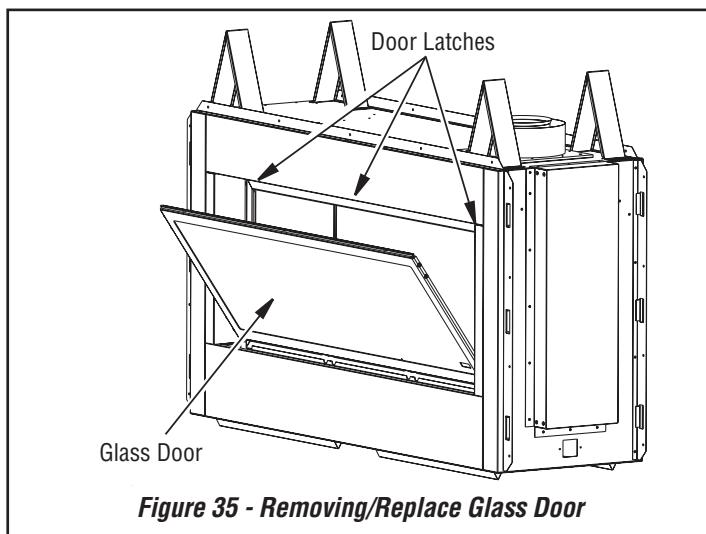

Figure 35 - Removing/Replace Glass Door
4. Tilt open glass door 45° from the top of firebox and lift up to release door from retaining channel (see **Figure 35**).
1. Position door frame in front of firebox opening tilting top of door about 45° toward you. Insert bottom flange of glass door into the retaining channel at the bottom of firebox (see **Figure 35**). Make sure door is center with firebox opening.